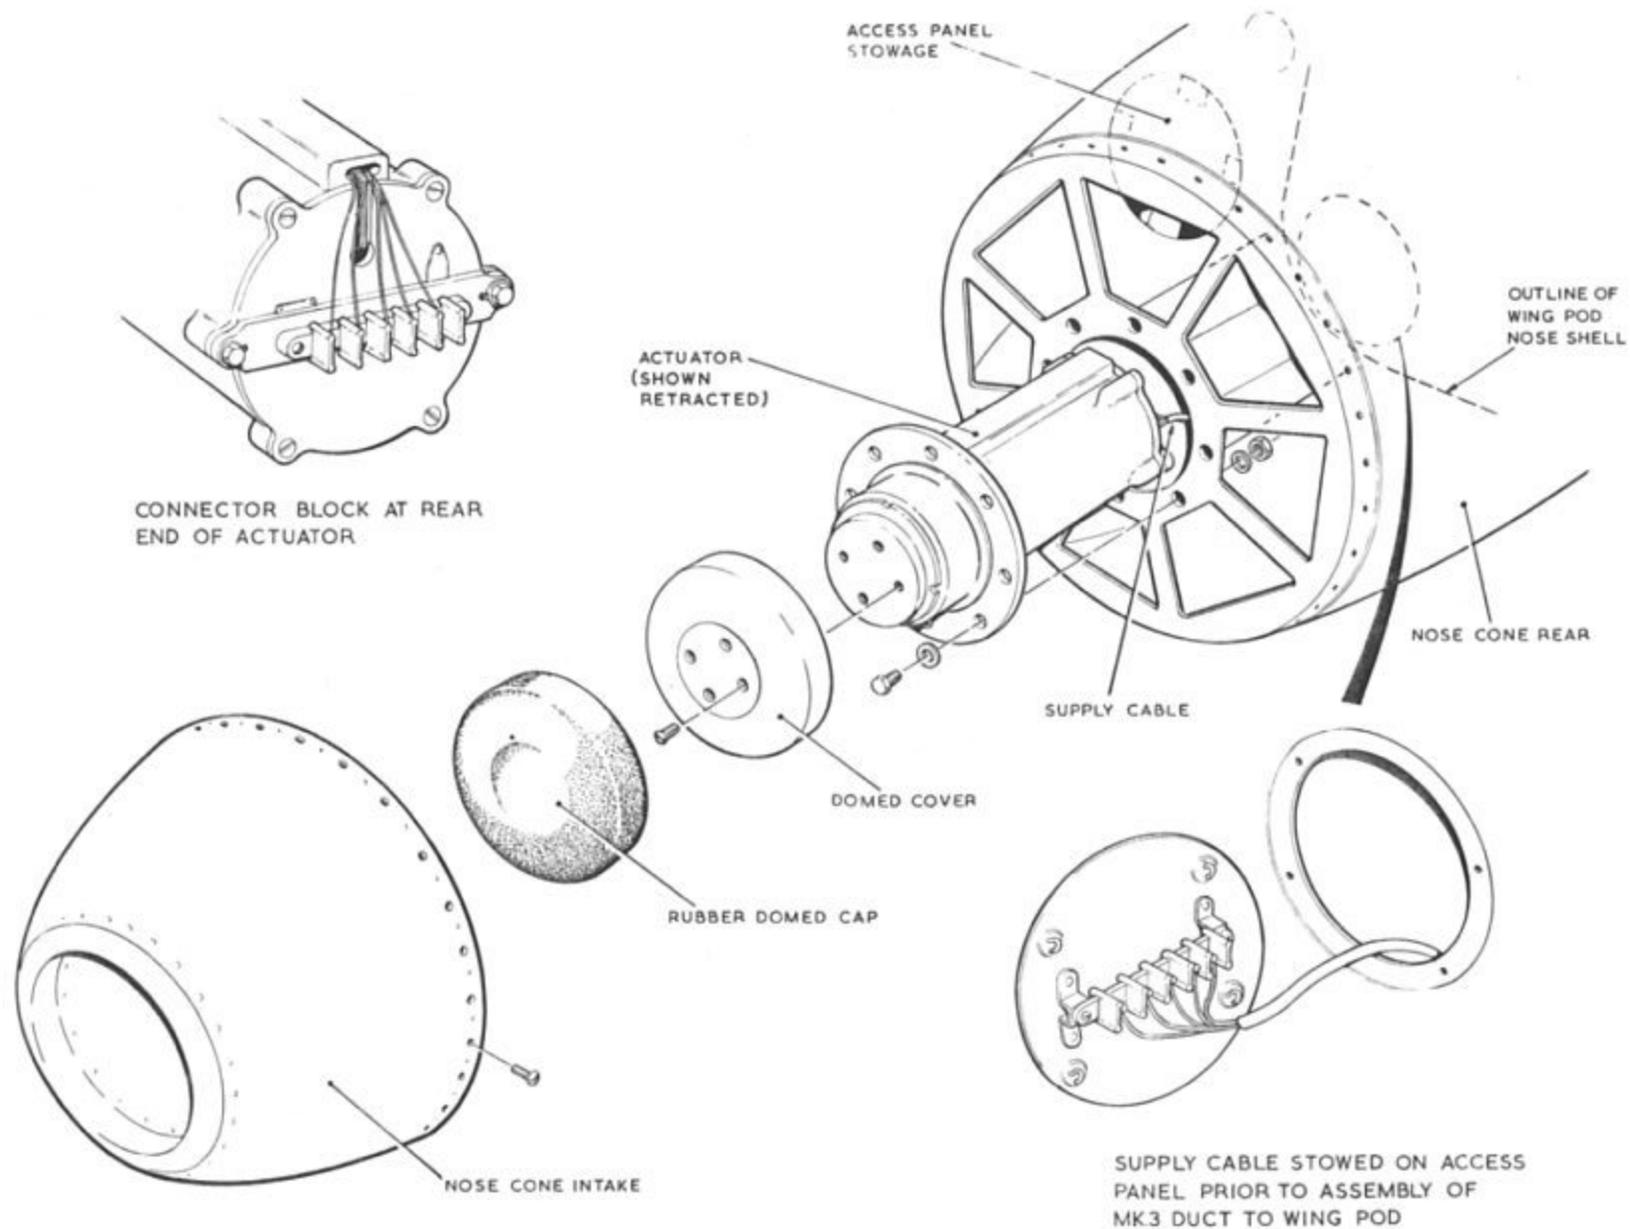

Fig. 5 Removal of Mk.3 duct actuator
- (1) Remove the nose cone as in 27 (1).
- (2) Remove the rubber domed cap to expose the end cap securing screws (fig.5).
- (3) Remove the end cap by releasing the 4 securing screws.
- (4) Proceed as in operation 27 (2) to (5).